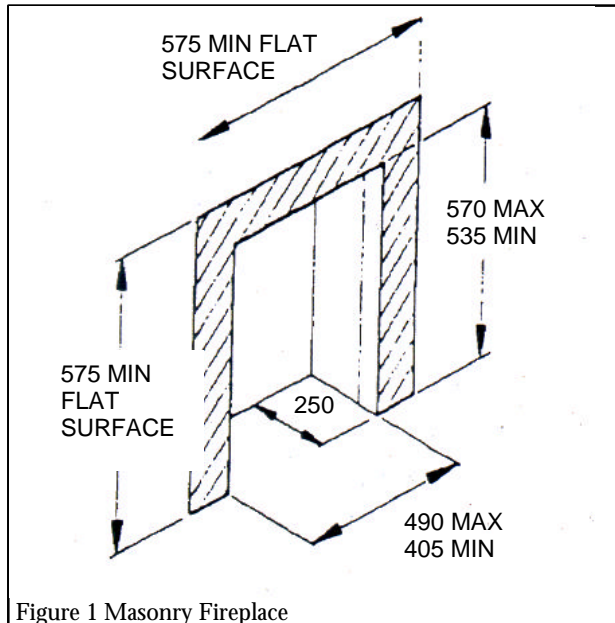

Figure 1 Masonry Fireplace
1. A masonry chimney with a minimum diameter of 175mm (7") free from any obstruction, and with any damper or restrictor plate in the chimney removed or secured, and having a minimum effective flue height of 3m (10ft). Note the relevant flat surface area requirement (Figure 1). A masonry chimney having a correctly installed flue liner to BS715 and with a minimum flue diameter of 125mm is also acceptable. Chair brick removal may be required. At least 50mm clearance must be available from the flue outlet to any fireplace component. The appliance is designed to cater for low lintel installations (min height 505mm) providing a minimum distance of 45mm is maintained between the lintel and the front face of the fireplace (i.e. fire surround with a min rebate of 45mm).